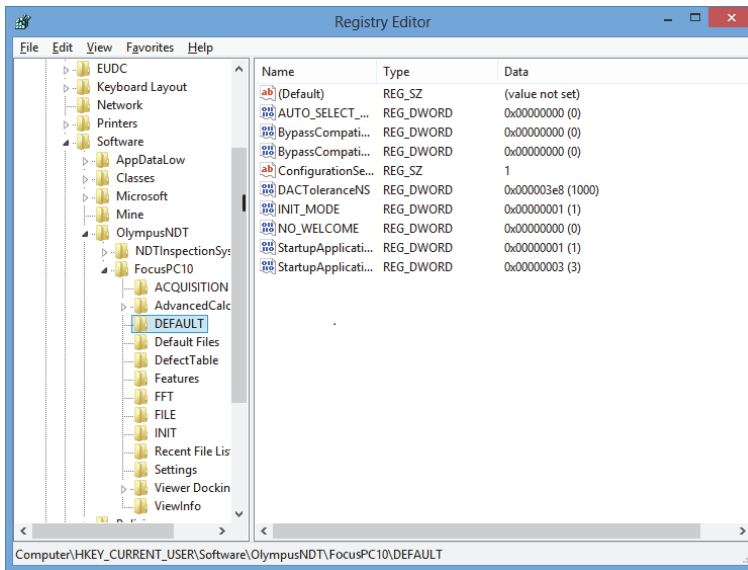

Figure 2-24 The files to modify in the DEFAULT folder
- c) Under the **Software** folder, expand the **Evident NDT** folder (see Figure 2-24 on page 49).